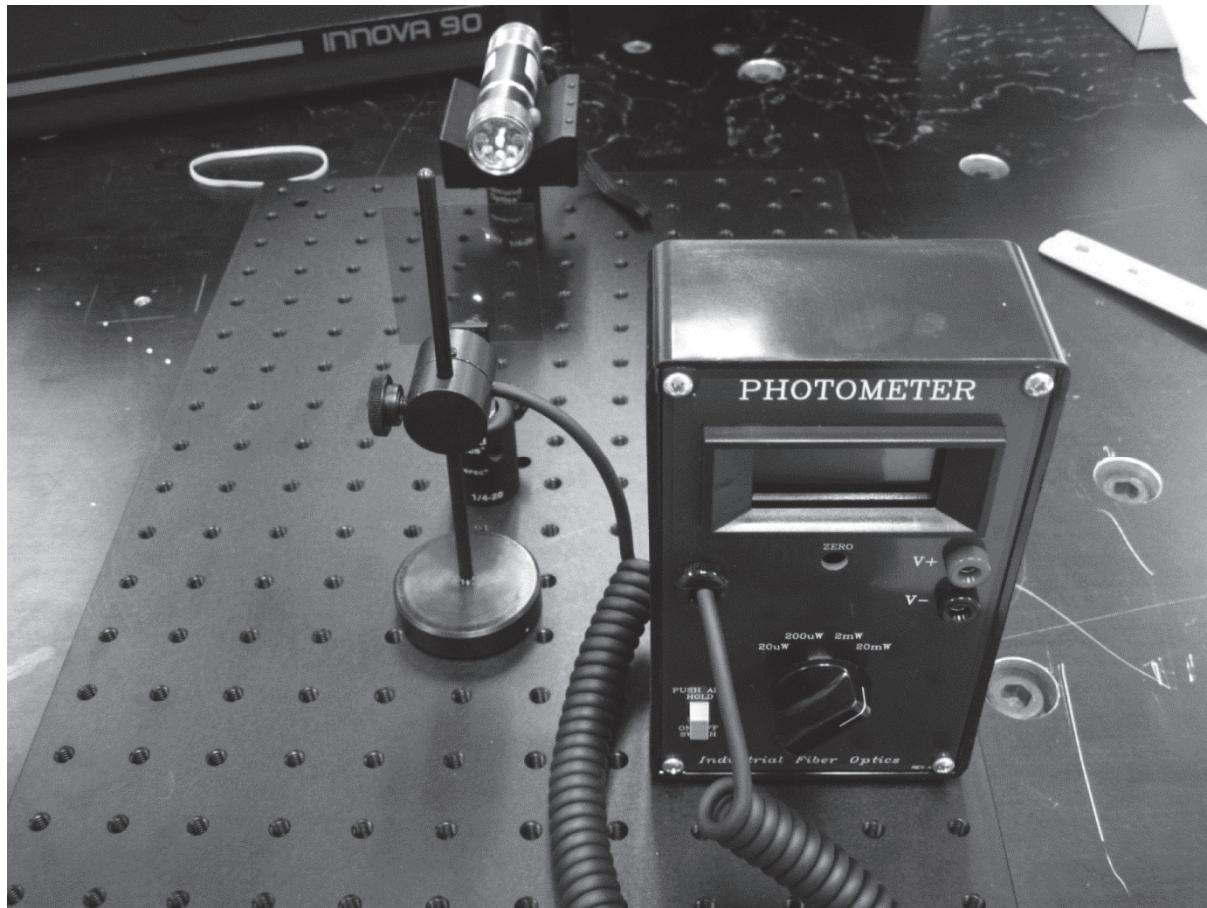

Figure 27 – Filter Power Measurement Set-up
1. Using the V-Clamp for laser (LI-2), a 1.5" post (LI-5), and a 1.5" post holder (LI-4), mount the laser diode module (LI-1) to the optical breadboard (LI-3). Mount a 1.5" post holder onto a mounting base (LI-9). Insert a 1.5" post into the 1.5" post holder. Mount the dual filter holder (LI-8) to the post inserted into the post holder. Place the dual filter holder assembly in line with the laser diode module. Turn the laser diode module on. Refer to Figure 27.